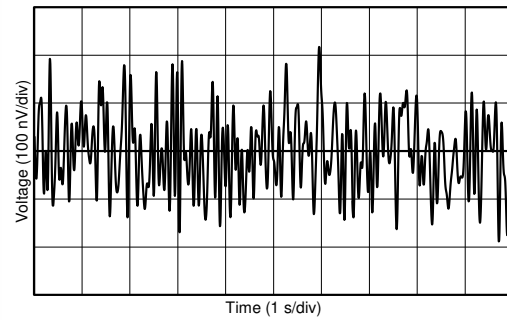

Figure 14. 0.1-Hz to 10-Hz Noise
0.1-Hz to 10-Hz Noise	Figure 14